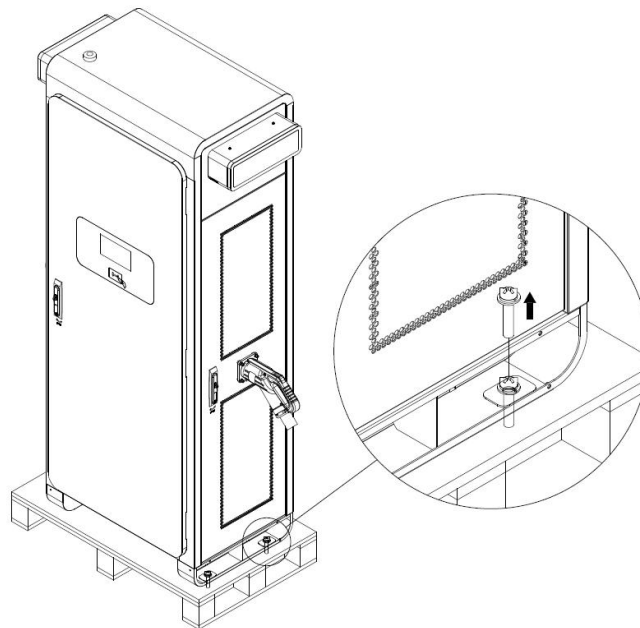

Figure 7
- Use an adjustable wrench to remove the four M12 screws at the bottom, as shown in Figure 7.